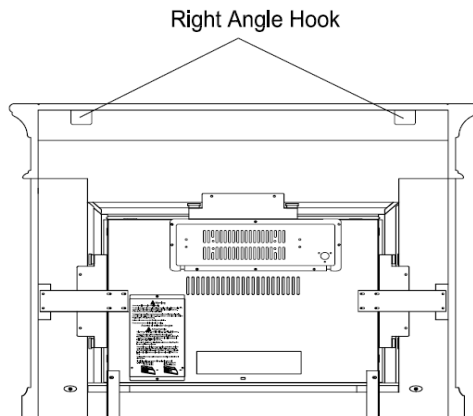

Figure 19
**STEP 5:** Right angle hook of mantel is link into hook. (Figure 19, 20)